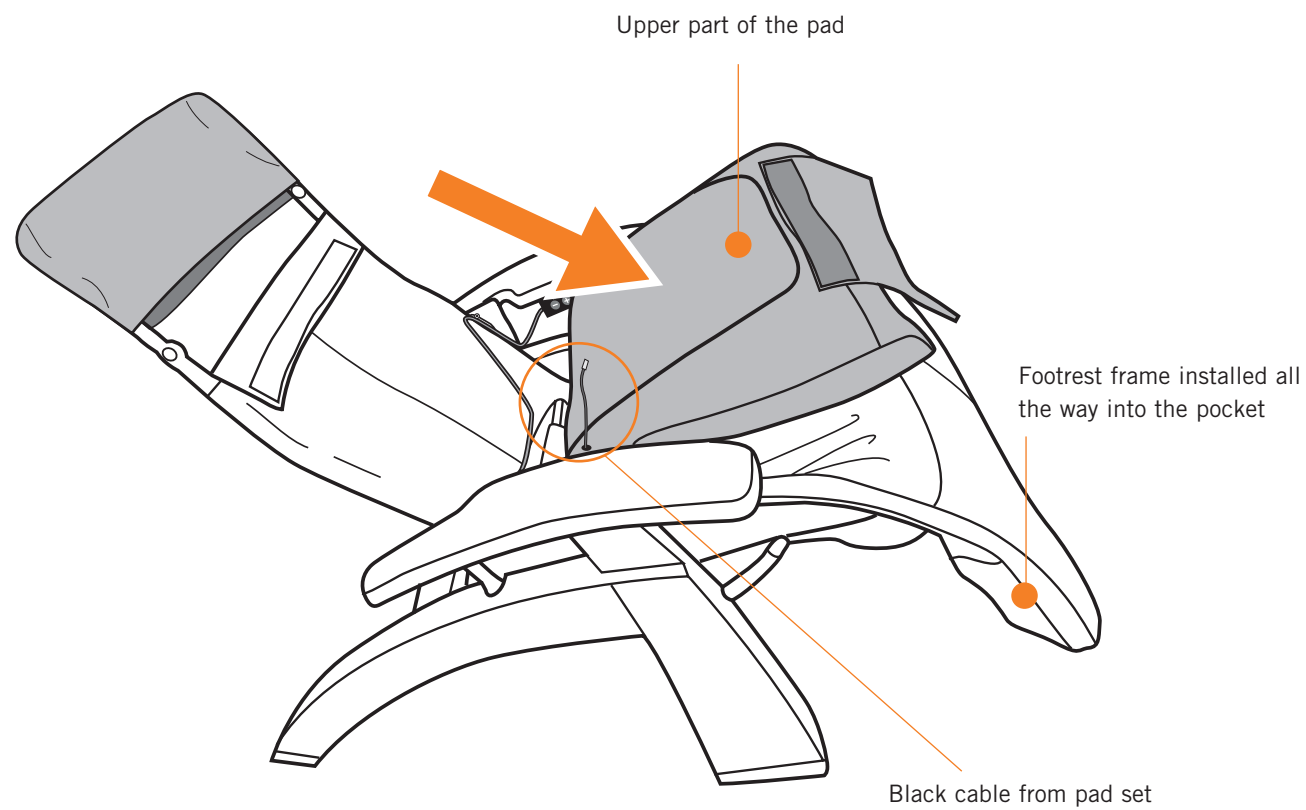

Fig.7
- 12. Slide the body pad onto the footrest frame, making sure the frame slides into the pockets on the bottom corners of the pad (Fig.7).
- 13. Fold the upper part of the pad forward onto the seat (Fig.7).